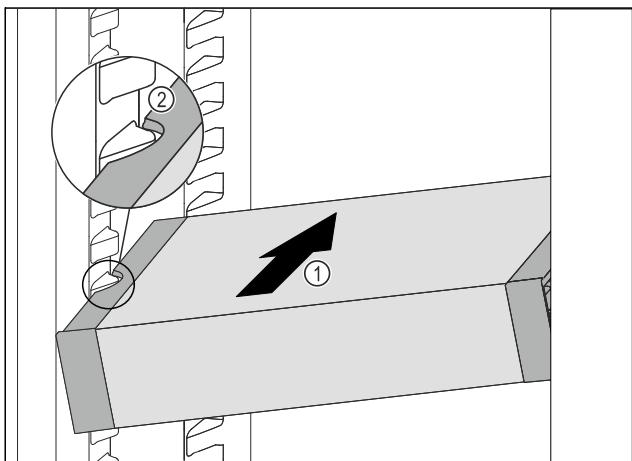

Fig. 114
- Insert the VarioSafe into the fridge section at an angle Fig. 114 (1) until the recesses in the side Fig. 114 (2) of the VarioSafe are at the level of the support rib in the fridge section.